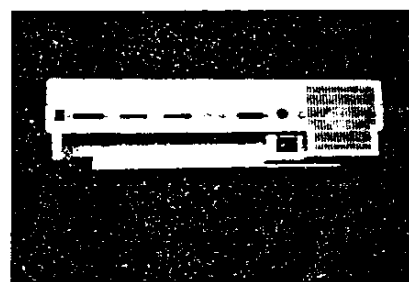

Fig. 2-1. Rear Connectors
2.1.2 Remove all peripheral cables and keyboard connector from rear of unit. See Fig. 2-1.